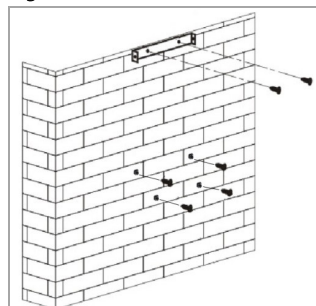

Fig. 2
**For exhaust mode:** Attach a flexible exhaust hose (included in delivery) with an inner diameter of 150 mm onto the connecting piece (extraction duct). Secure the hose with the cable tie [Fig. 2].